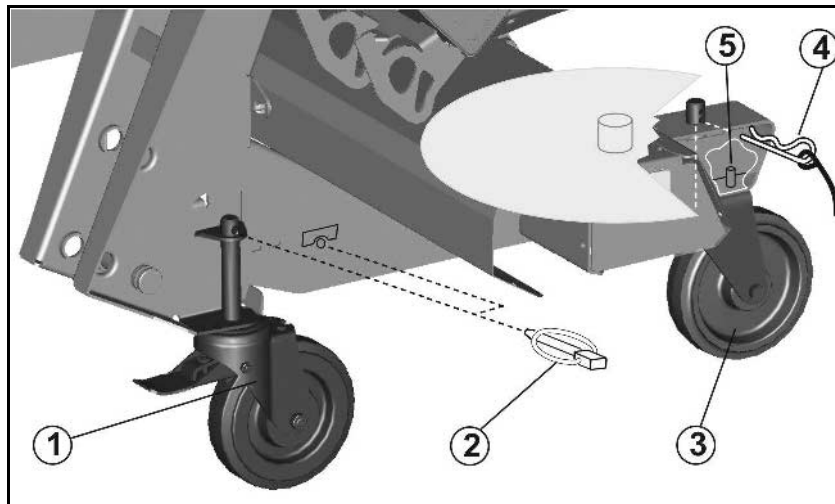

Fig. 37
5. Steerable brake rollers (Fig. 37/1), front
- o Install and secure with clip pin (Fig. 37/2),
6. Rigid rollers (Fig. 37/3), rear
- o Install and secure with safety splint (Fig. 37/4) in lowest bore,
When installing the rigid rollers ensure that the pin (Fig. 37/5) goes through the bore of the frame, thus holding the rollers in longitudinal direction.